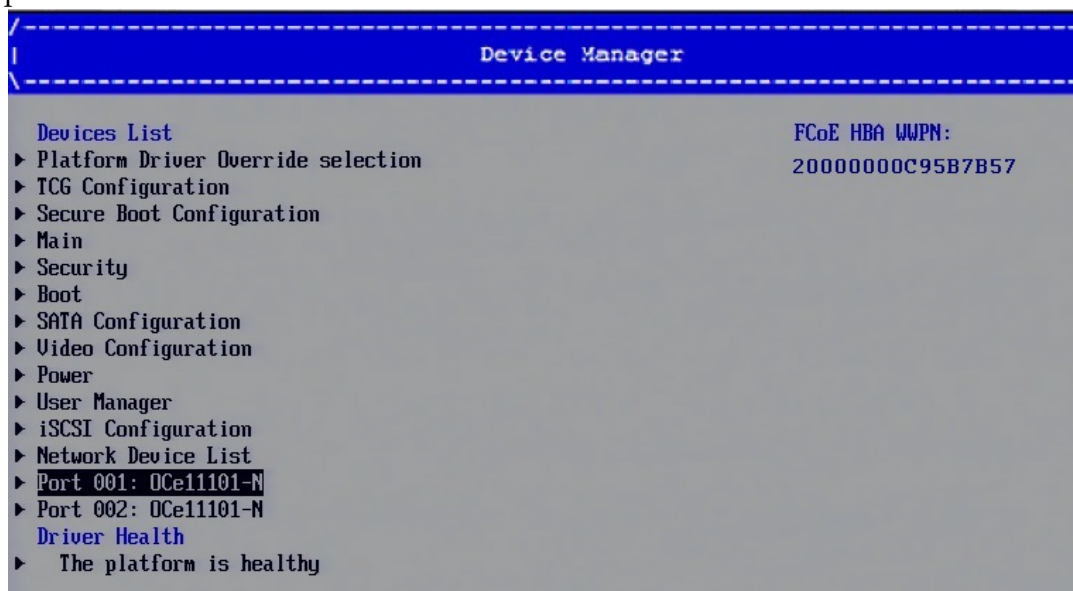

Figure 12-2 Device Manager Screen
1. From the Device Manager screen (Figure 12-2), select the adapter whose network boot setting you want to change and press **<Enter>**.
1. From the Device Manager screen (Figure 12-2), select the adapter to configure and press **<Enter>**.